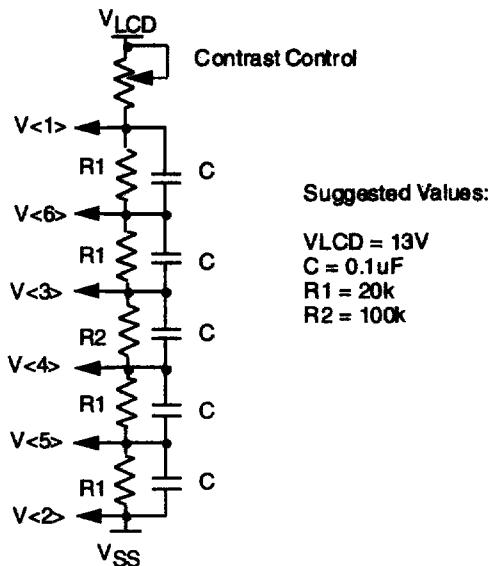

Figure 2. External Voltage Divider
These are the inputs of voltage levels for the LCD driving signals (Fig. 2).
The LCD segment driver is capable of 1:6 bias (for 32 mux) to 1:9 bias (for 64 mux), depending on the voltage divider ratio of Fig.2. The ratio of bias ( $a$ ) is defined as
**VOLTAGES SELECTOR** consists of switching circuit to select appropriate voltage levels among <V1>, <V3>, <V4> and <V2>. (See Fig. 2).